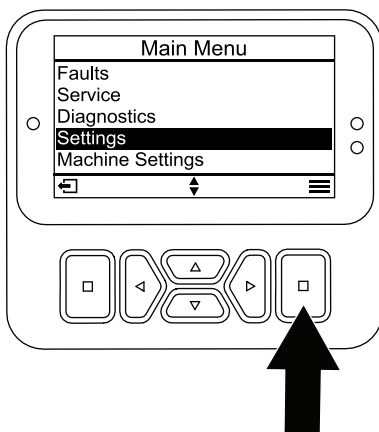

Figure 2
1. From the MAIN MENU, scroll down to the SETTINGS menu and press the select button (Figure 2).